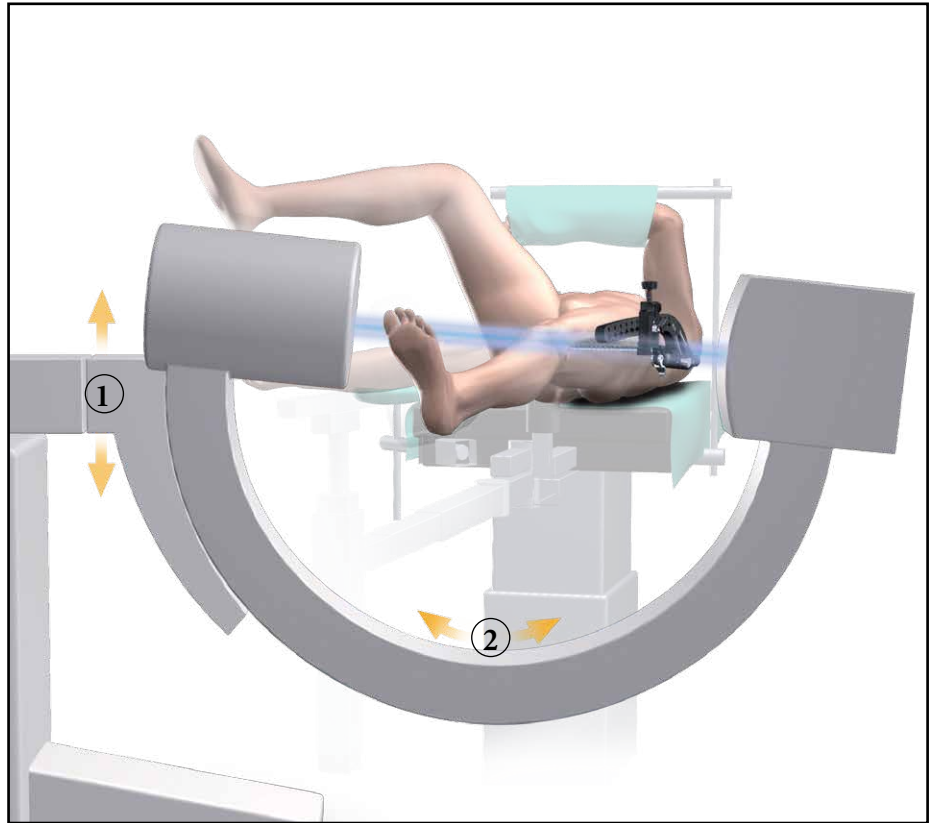

Fig. 27
After the oblique C-Arm positioning is done, adjust the height (Fig. 27 ①) and orbital rotation (Fig. 27 ②) of the X-Ray beam at the same plane as the Drill Sleeve Assembly (Fig. 27).